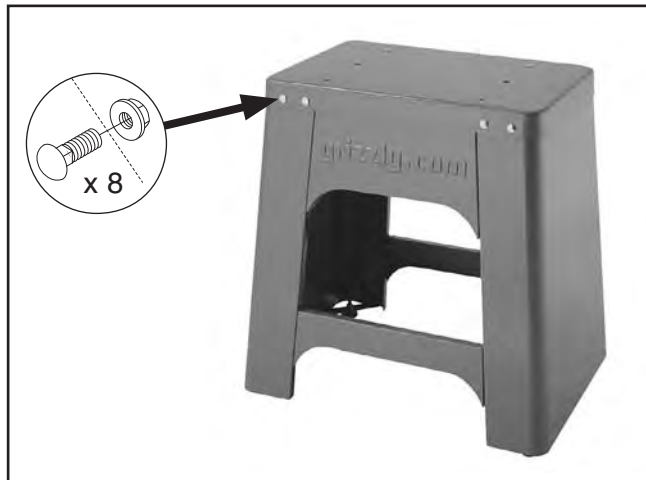

Figure 11. Stand top attached.
4. Turn the stand assembly upright and attach the top, as shown in **Figure 11**, with (8) M8-1.25 x 16 carriage bolts and (8) M8-1.25 flange nuts.